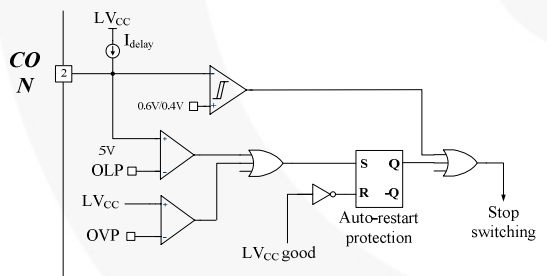

Figure 21. Internal Block of Control Pin
**4. Control Pin:** The FSFR-series has a control pin for protection, cycle skipping, and remote on/off. Figure 21 shows the internal block diagram for control pin.